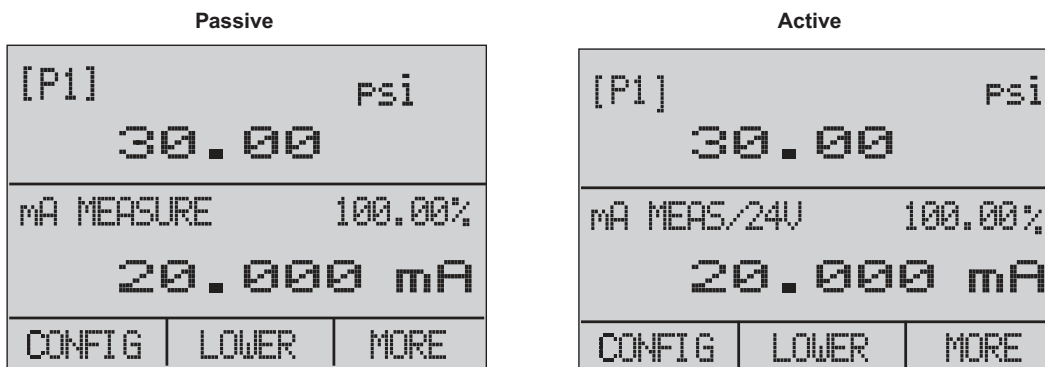

Figure 25. Passive and Active Screens
2. Actively – the Product supplies a loop power of 24 V dc to the UUT to power the device while it reads the 4... 20 mA signal. See Figure 25.